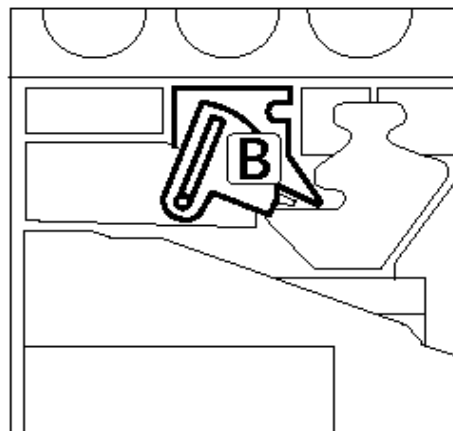
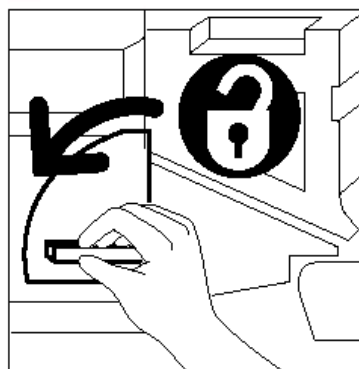

Figure 40: The gold latch release (B)
Figure 41: Unlocking the Copy/Print Cartridge
- 2 Rotate the Copy/Print Cartridge gold latch release (area B) counterclockwise to its unlocked position, as illustrated in Figure 40 and Figure 41.
NOTE: The “B” pictured on the release in Figure 40 is actually on the cartridge.